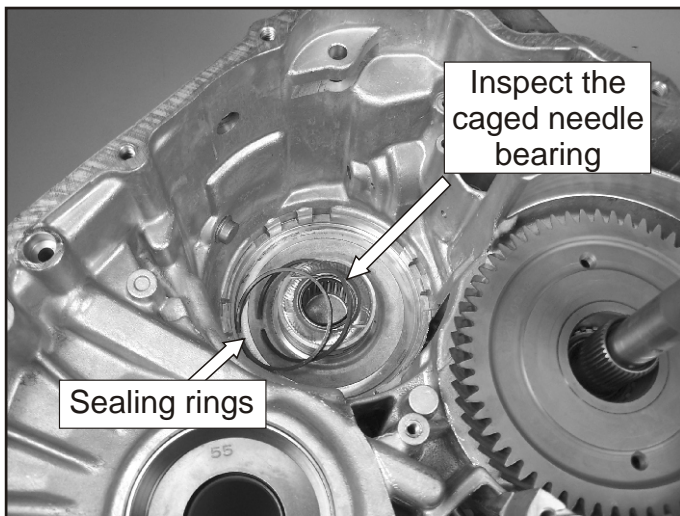

Figure 251
- 179. Turn the case over to where it is resting on the rear cover, and replace the two C3 underdrive sealing rings as shown in Figure 251.